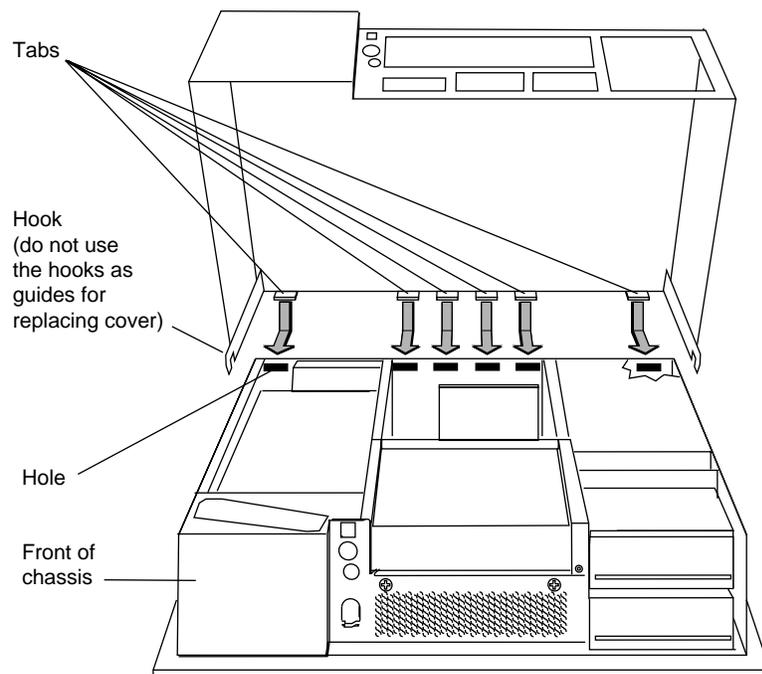

Figure 2-22 Replacing the Cover
1. Locate the tabs on the inside and back of the top cover and the holes on the back of the workstation. See Figure 2-22.